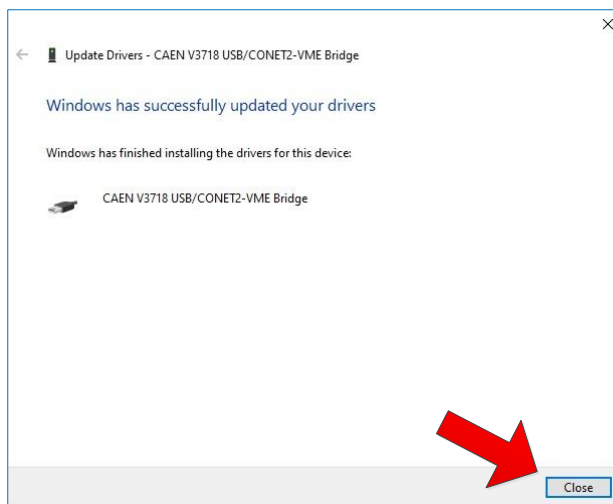

Fig. 11.5: USB Driver Installation: step 5
5. Press the [Close] button at the end of the installation process (**Fig. 11.5**).